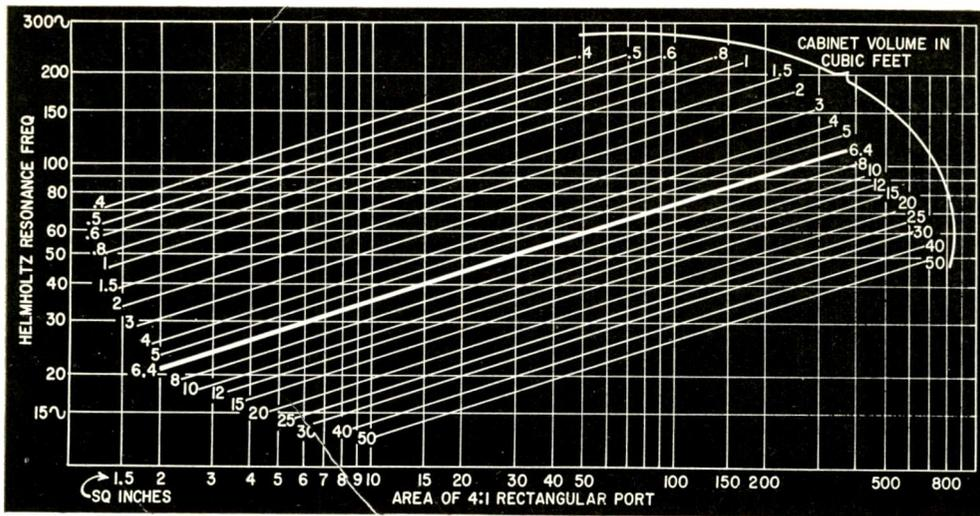

Fig. II-7—Chart showing relationships between Helmholtz resonance of reflex enclosures, port area and cabinet volume.
Fig. II-7 (heavy line). This relates to a well-built cabinet with an internal volume of approximately 6.4 cubic feet. The ports were located well clear of other surfaces as this affects the results. The experiments show that with constant port shape, a change of port area of between 8 and 9 to 1 is required for a 1-octave change in the Helmholtz resonance frequency.
Theoretically, both ways of translating should give the same answers. However, in practice they don't quite and as the latter seems more accurate it was used to obtain the family of derived curves shown in Fig. II-7. From these, the Helmholtz resonance frequencies expected from larger or smaller cabinets with rectangular 4-to-1 ports can be read off. In practice, results are within about 10%, so for an initial design the port area should be made on the large side, and provided with some kind of adjustment.
From Fig. II-7 it will be noted that, if cabinet volume is increased and nothing else is changed, the tuning frequency drops. This will seem natural to those acquainted with electronic circuits, in which the tuning frequency drops when the capacitance (C) is increased. To retain the tuning frequency in the electronic circuit when C is increased, the inductance (L, the magnetic inertia) must be reduced.
might be expected that the port area would have to be reduced to obtain a lower air-inertia factor and keep the air resonance frequency constant. Yet, examination of Fig. II-7 shows that for the same Helmholtz resonance frequency, a larger cabinet requires a larger port. Also, from the results plotted in Figs. II-6 and II-7, we find that to raise the frequency (which requires a reduction of the air-inertia factor) port area has to be increased. All this seems rather odd!